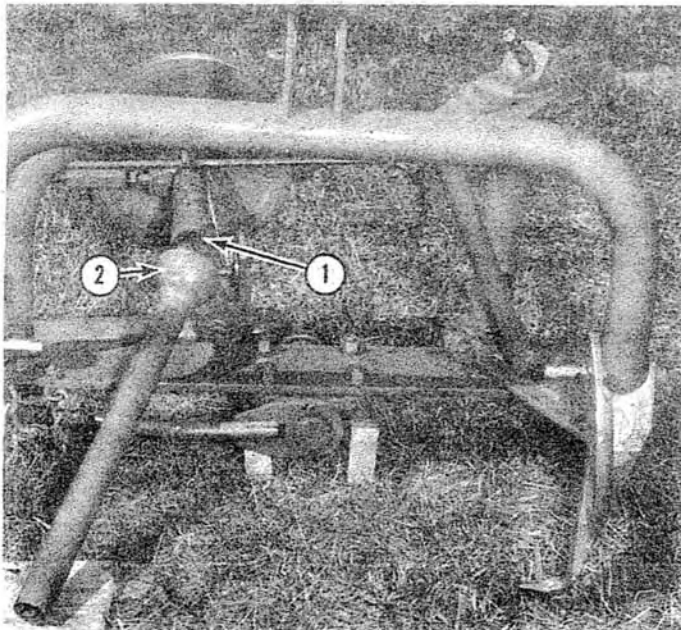

Fig. 56 - Sixth Stage of Assembly
9. Place the four 5/8" bolts through the base casting with their heads downward; hold them in position by placing two short blocks beneath their heads, as in Fig. 56. Lower the frame group onto the bolts, with the bolts inserted through the appropriate holes for the wheel width spacing of the tractor to be used. In Fig. 56, the bolts are positioned for a tread setting of 72-76 inches. For a clearer illustration, and also details pertaining to the 52-56 and 62-66 inch wheel settings, refer to the diagram Fig. 9 in the "Mower Width Adjustment" section. Place lockwashers and nuts on the base bolts and tighten them down to 125-150 ft.-lbs. torque, which is equivalent to a strong pull on an 18" wrench.
10. Attach the PTO shaft to the drive shaft (Fig. 56) by means of a woodruff key and drive pin.